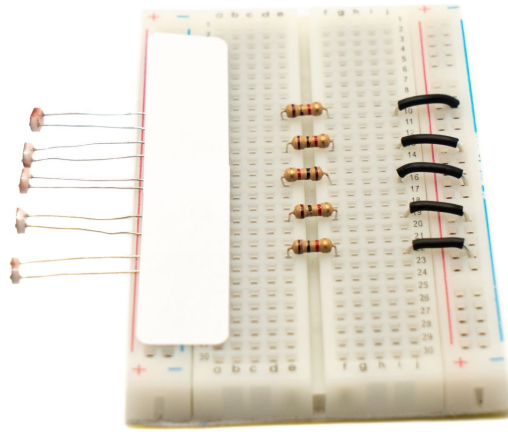

Figure 2.8
6. Glue or tape across the 5 photoresistors to fix their position and alignments. See **Figure 2.8** on the right